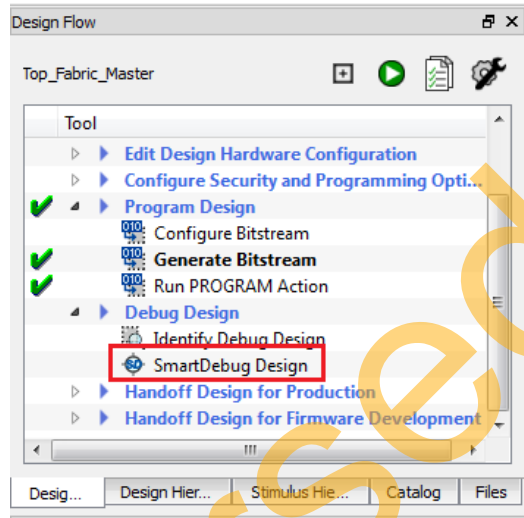
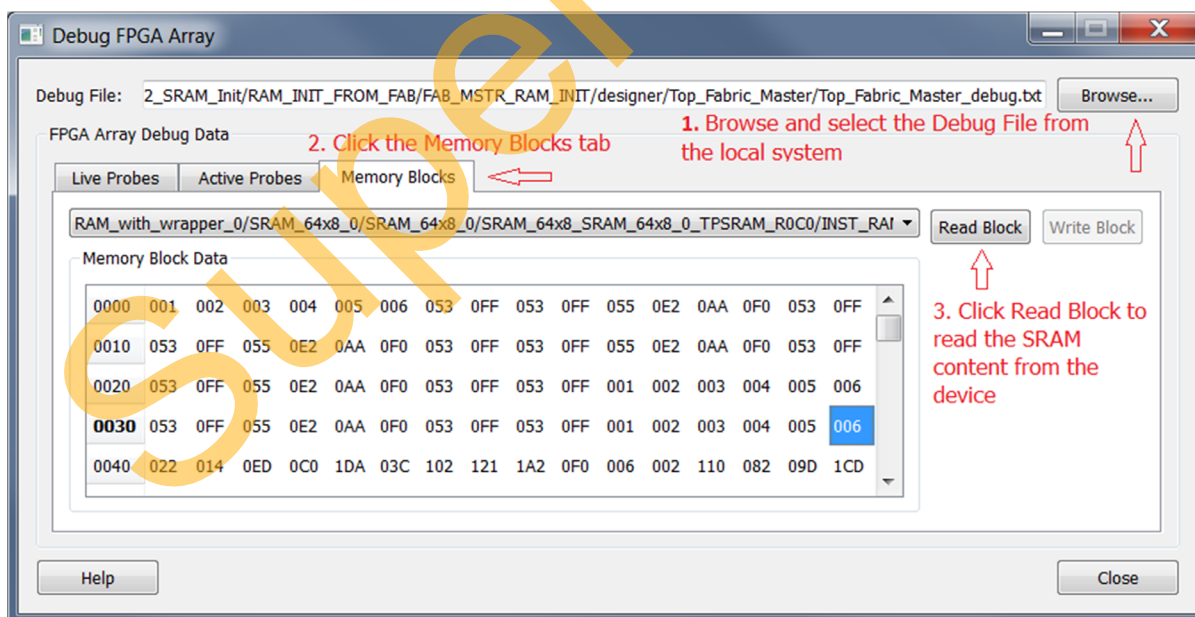

Figure 22 • SmartDebug Window Debug Options
Figure 24 • SRAM Content Read from the Device
2. Launch **SmartDebug** by selecting the **SmartDebug Design** option from the **Design Flow** window as shown in Figure 22. The **SmartDebug** window is displayed.
6. Click **Debug FPGA Array** as shown in Figure 22 to open the **Debug FGPA Array** window as shown in Figure 24.
- a. Browse to select the `Top_Fabric_Master_debug.txt` file. The Debug File must be specified before starting the FPGA Array Debug as shown in Figure 24. For example, the *Debug File* = `<project root>/designer/Top/Top_Fabric_Master_debug.txt`
c. Click **Read Block** to read the SRAM content in real-time from the device. The content of the SRAM is displayed as shown in Figure 24. The SRAM data that is stored into eNVM which is used to initialize the SRAM block.